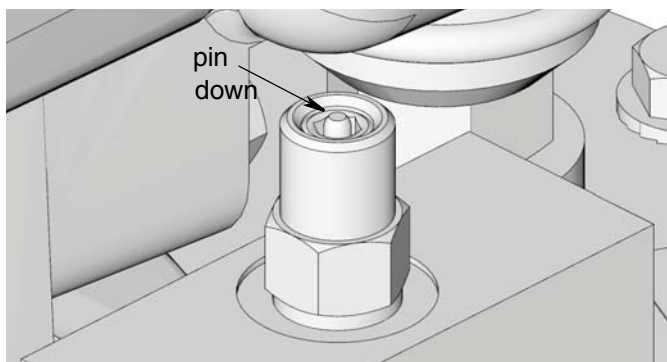

FIG. 18
- Verify the Auto-Fill Shut Off (S) pin is down, indicating it is reset (FIG. 18).